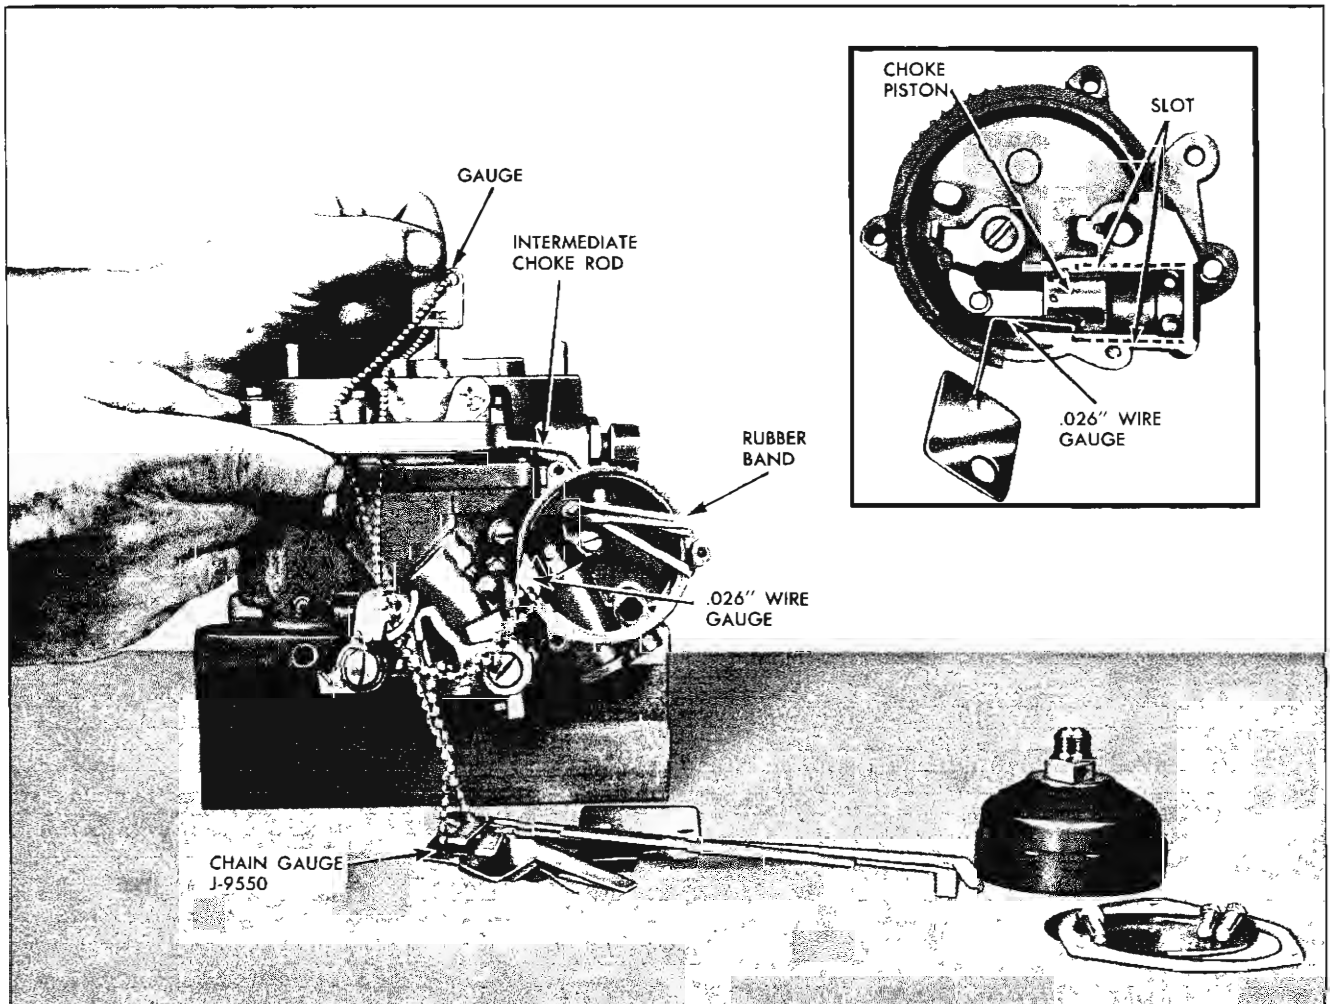

Fig. 76—Intermediate Choke Rod Adjustment
- Open choke valve and insert .026" wire gauge, J-9550 between bottom of slot in piston and top of slot in choke piston housing (fig. 76). Close